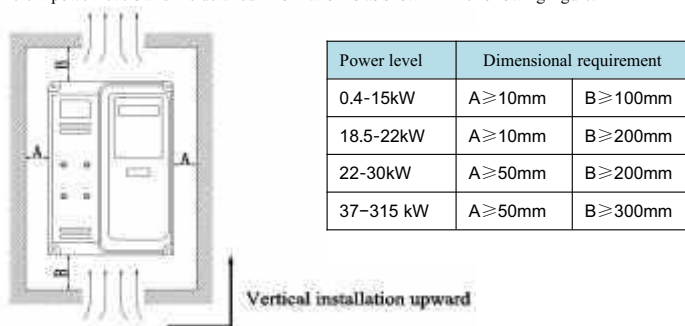

Fig. 3-1 Installation space requirements of KD5800 frequency converter of different power levels
- 1) The installation space is as shown in Fig. 3-1 and enough heat dissipation space shall be kept for the frequency converter. Please consider the heat dissipation of other devices in the cabinet when the space is reserved.